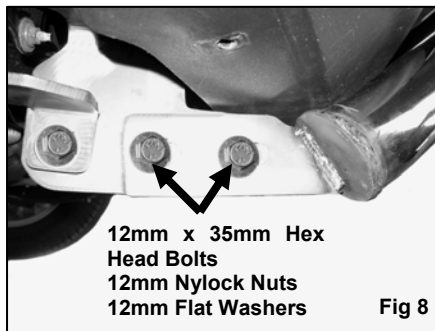

Fig 8
13. With help position Sport Bar on the outer side on Mounting Brackets. Attach Sport Bar to Mounting Brackets using (4) 12mm x 35mm Hex Head Bolts, (4) 12mm Nylock Nuts, and (8) 12mm Flat Washers (Figure 8). Do not tighten at this time.